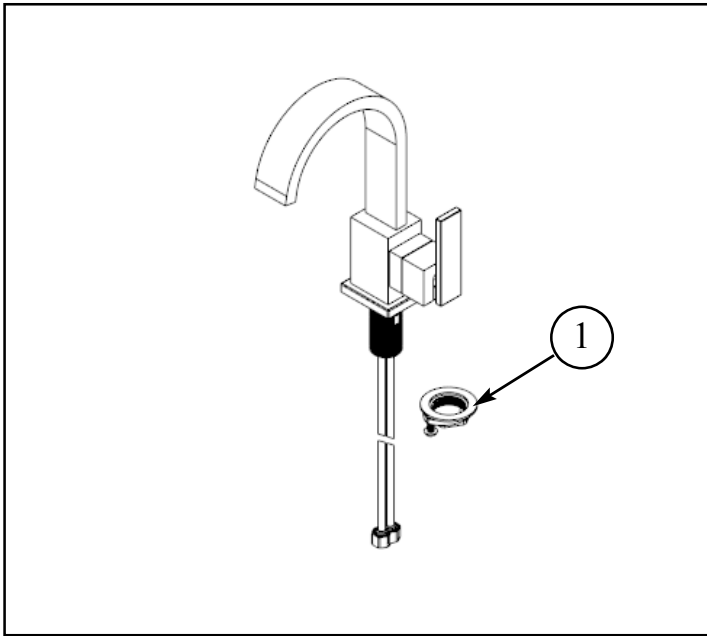

Figure 1
1. Place the spout hoses, one at a time, and secure spout into place with MOUNTING KIT (1) See Fig. 1